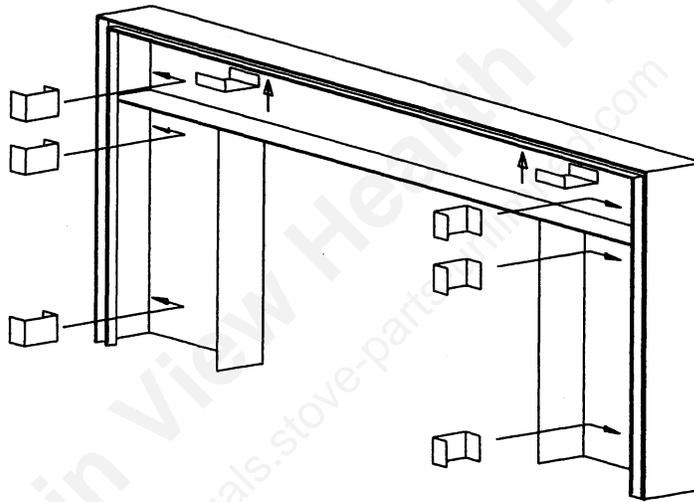

Figure 12c
6. Slip the assembled trim over the faceplate and push the faceplate trim clips between the trim and the faceplate (two on the top edge and three down each side) (see Figure 12c).